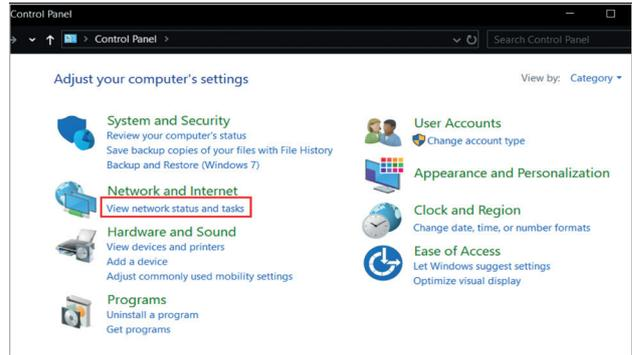

Figure 6. Opening the **View network status and tasks** menu.
2. Click **View network status and tasks** under the **Network and Internet** section (Figure 6).